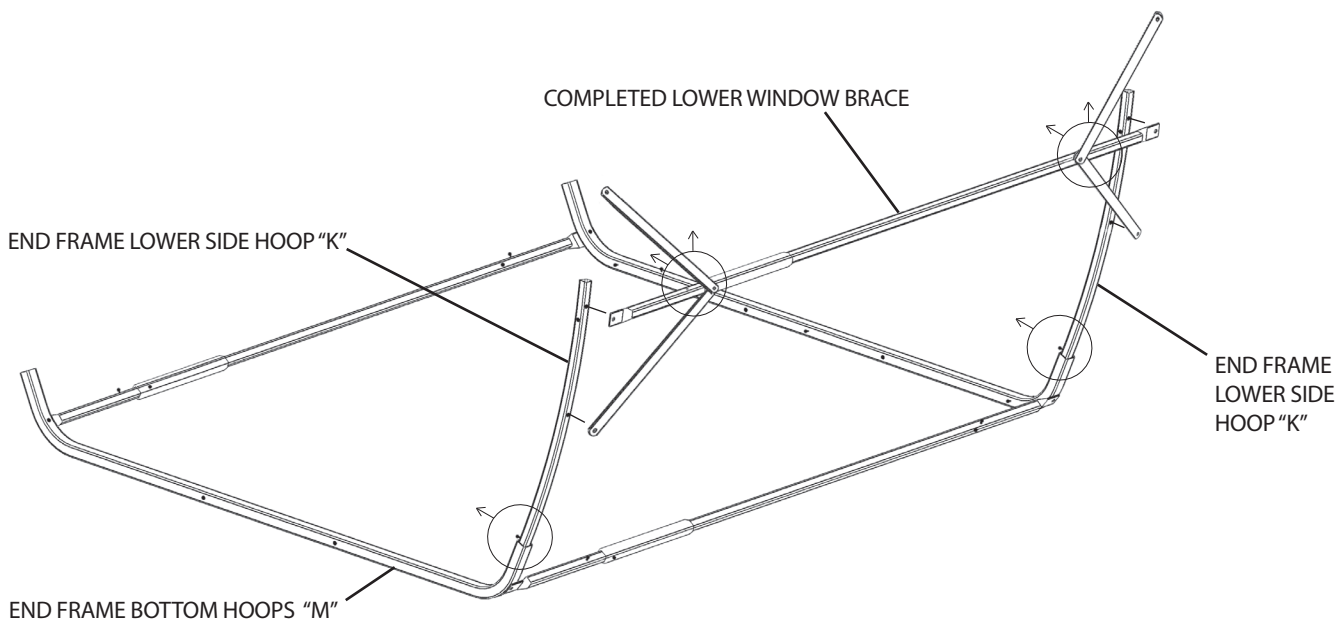

Figure 15.1
STEP 7: Locate the (3) parts that will be assembled to create the first section of the bale blind frame. These parts are (2) END FRAME LOWER SIDE HOOPS "K" and (1) COMPLETED LOWER WINDOW BRACE. Using the hardware connection in (2) places, align and fasten the hole ends in the COMPLETED LOWER WINDOW BRACE with the upper most holes in the (2) END FRAME LOWER SIDE HOOPS "K", and fasten with (2) Bolts and (2) Nuts. Next align the hole ends of the bottom (2) CROSS MEMBER BRACES "G" with the corresponding holes in the (2) END FRAME LOWER SIDE HOOPS "K", and fasten with (2) Bolts and (2) Nuts, as illustrated in Figure 15.1.
NOTE: On the COMPLETED LOWER WINDOW BRACE, make sure (2) Set Screws already installed are facing towards what would be the interior of the blind, while the other (2) Set Screws already installed are facing upwards, as illustrated in Figure 15.1. The Set Screw already installed on the (2) END FRAME LOWER SIDE HOOPS "K" need to be facing towards the interior of the frame, as illustrated in Figure 15.1.
NOTE: The bottom (2) CROSS MEMBER BRACES "G" will have their opposing end fastened to the (2) END FRAME LOWER SIDE HOOPS "K", while the top (2) CROSS MEMBER BRACES "G" will have their opposing ends not fastened to any part, as illustrated in Figure 15.1.